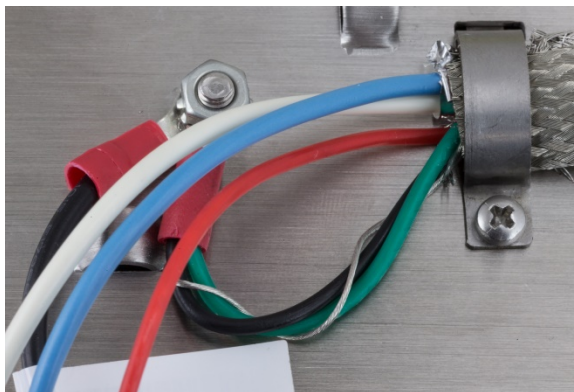

Figure A-59: Ground Wiring
10. On the rear cover of the panel-mount enclosure, connect the short black wire (provided) and the twisted black and green wires from the POWERCELL cable to the external ground stud with a hex nut as shown in Figure A-59.